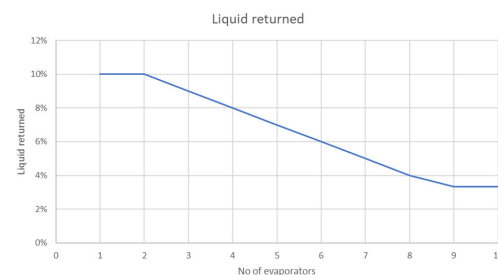

Fig. 1: Returned liquid estimation of returned liquid as a function of evaporators quantity.
- Worst case is that 3% of the flow returning to the suction accumulator is liquid. If there are less than 10 evaporators, this number needs to be higher - see Figure 1. "Returned liquid estimation as a function of evaporators quantity"